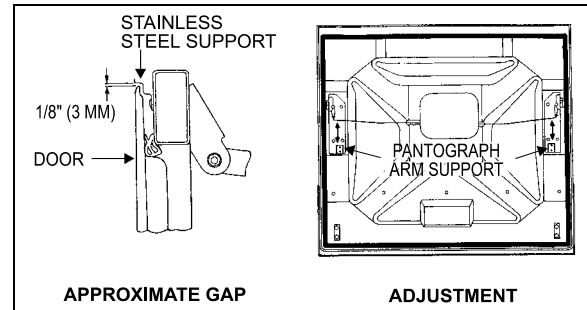

FIGURE 54: BAGGAGE COMPARTMENT DOOR 18064
- Unscrew and remove both striker pins. Loosen bolts retaining door to pantograph and balance arm supports. With door closed, adjust height so the top of the door fits flush with the adjacent doors. Then, complete tightening the four bolts retaining door to each pantograph arm support. A gap of  $1/8$ " (3 mm) between the top of the door and the stainless steel support is given as a guide (Fig. 54).